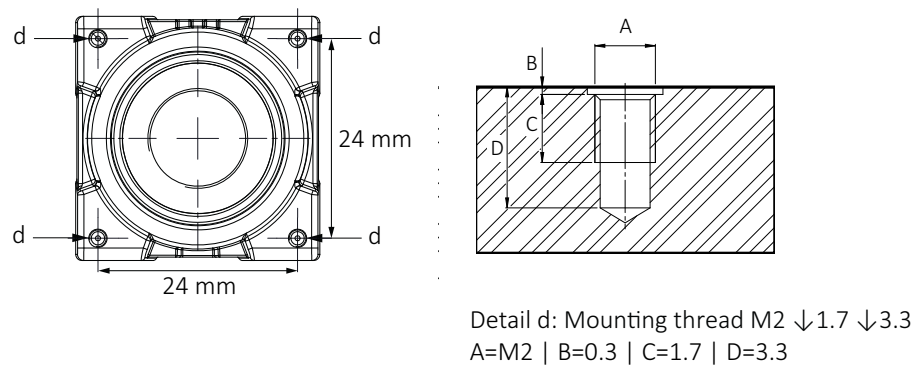

Figure 100: Camera front with mounting threads (d)
1. Mount the camera to the base using suitable M2 screws at 0.17 Nm maximum torque for a thread engagement (C) of 1.7 mm between screws and mounting threads, see Figure 100. For technical drawings, see Standard Alvium: Dimensions and mass on page 216.